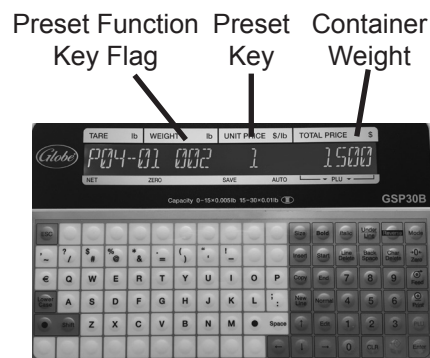

Figure 13-3
8. Key in weight of the container. Press the desired preset key. See Figure 13-3.